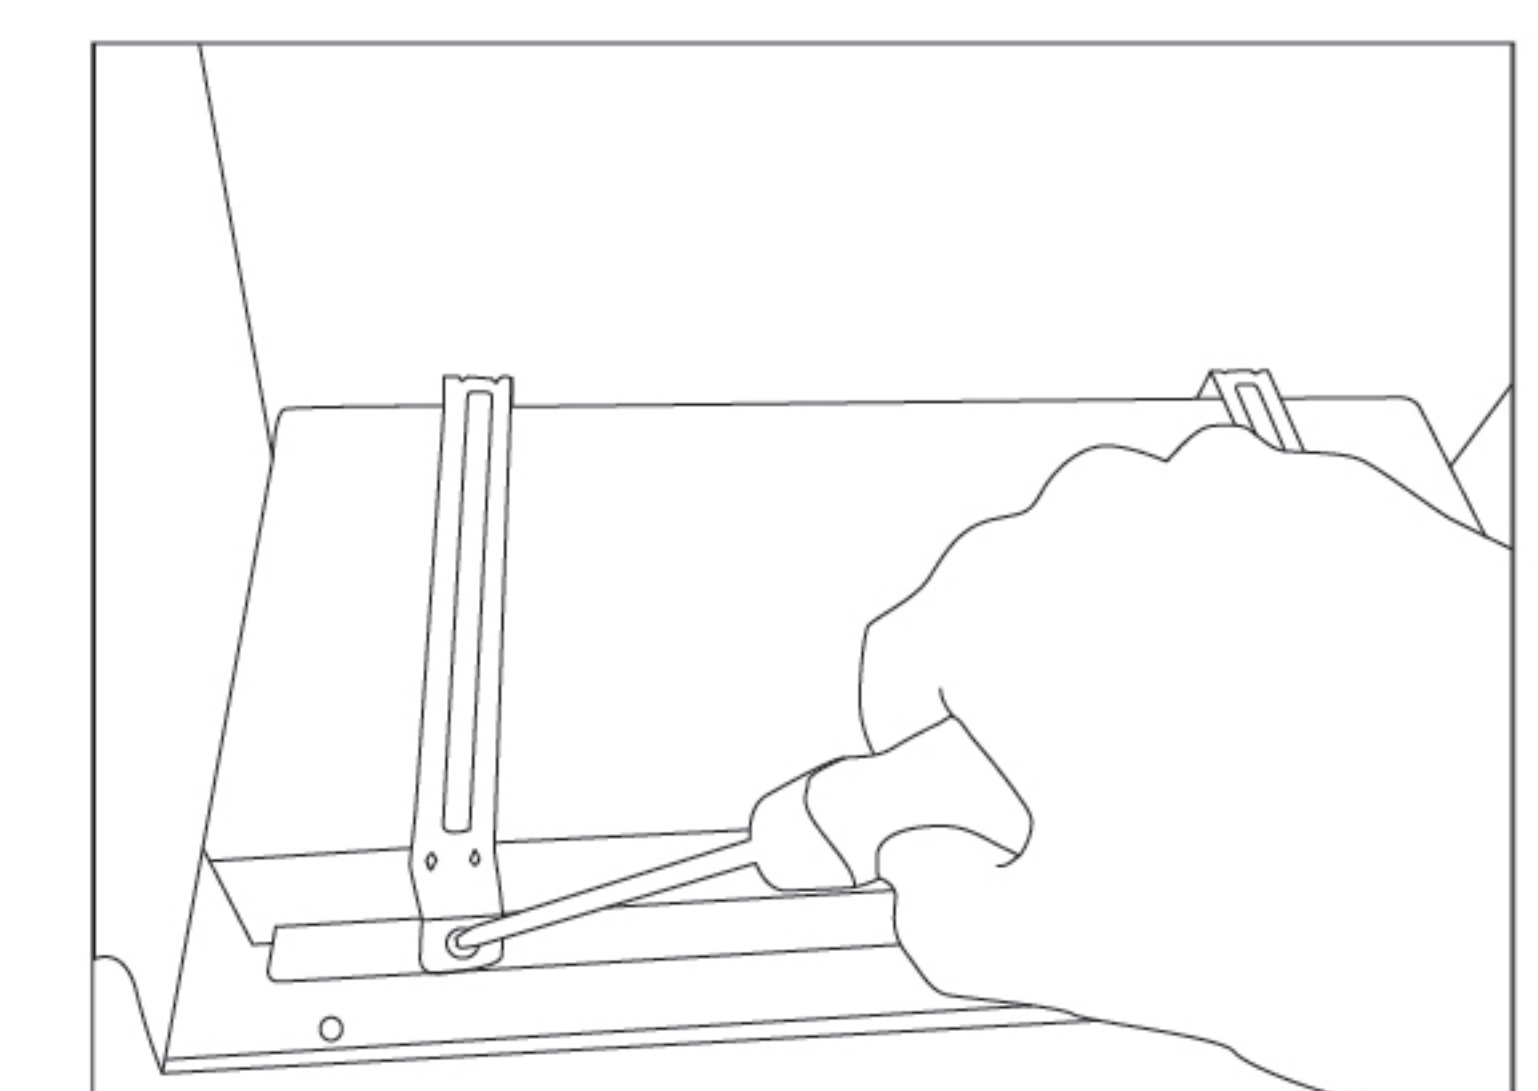

Fig.6
3. Loosen both screws of the depression bar with a cross screwdriver to remove the LED lamp and then replace it accordingly(Fig.6).